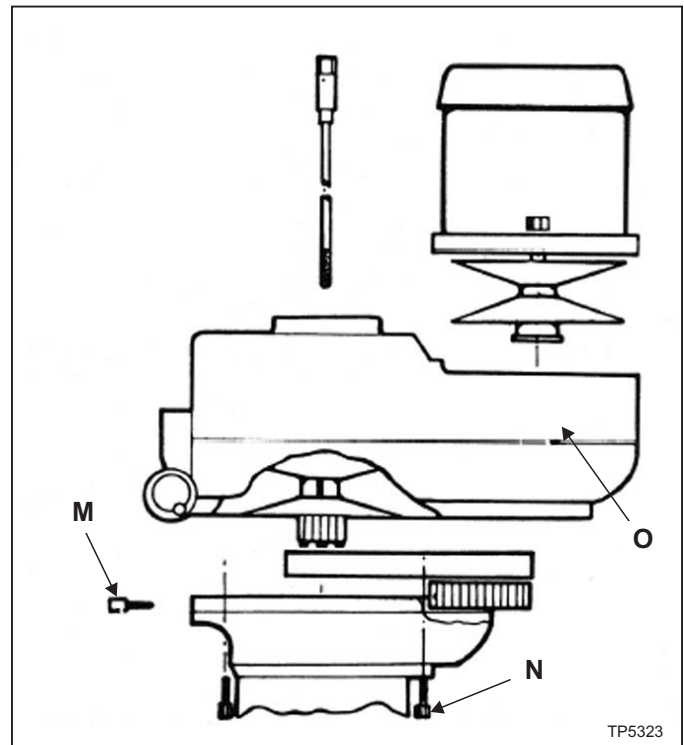

Figure 3.4 - Timing Belt Replacement
3. Remove the two lower cap screws "M", Figure 3.4, from the speed changer housing.